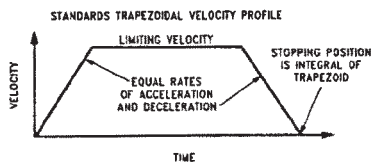

FIGURE 5. Typical Trajectory Velocity Profile
- Figure 5. Typical Trajectory Velocity Profile
Trajectory profiles are plotted in terms of velocity versus time, Figure 5, and are velocity profiles by reason that a new desired position is calculated every sample interval. For constant velocity these desired position increments will be the same every sample interval, for acceleration and deceleration the desired position increments will respectively increase and decrease per sample interval. Target position is the integral of the velocity profile.